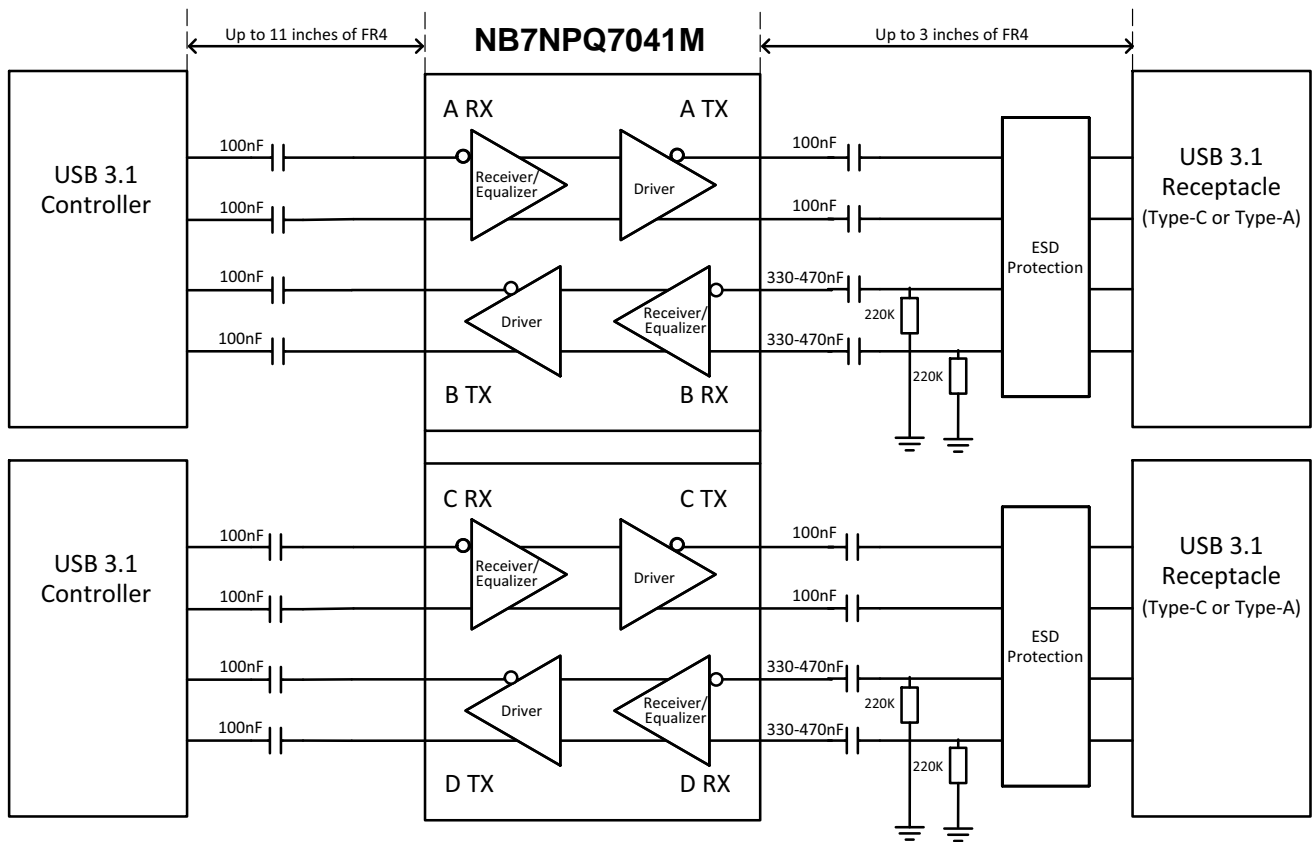

Figure 5. Typical Application
AC Coupling Capacitors (TX)	100 nF nominal, 75 nF to 265 nF, see Figure 5